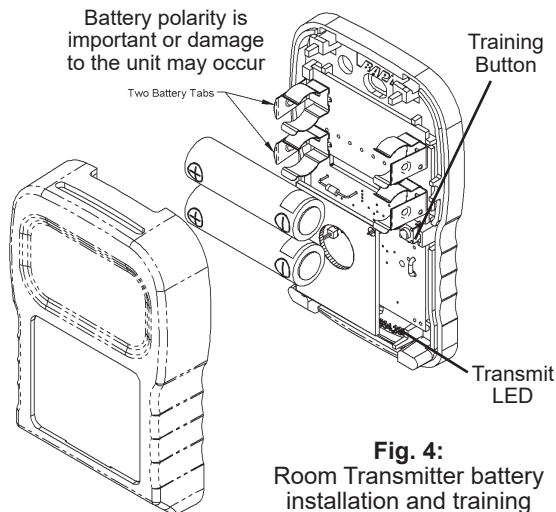
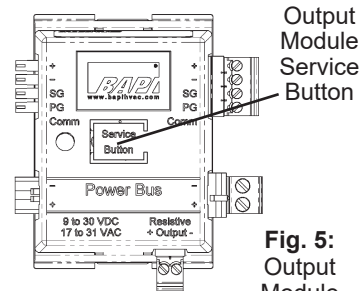

Fig. 4:
Fig. 5:
3. Remove the cover of the room transmitter and remove the battery tabs or install the batteries, observing polarity as shown in Fig 4. The "transmit LED" will flash about once every 20 seconds, indicating a transmission.
4. Press and hold down the "Service Button" on the top of the output module (Fig 5) that you wish to train. Then, press and release the "training button" (see Fig 4) on the transmitter. When the output module receives the "training transmission" from the transmitter, the output module's red LED will light steady. Release the "Service Button" on the output module and the red LED will go out. The transmitter and output module are now trained to each other. During normal operation, the output module's LED will flash about once every 20 seconds indicating data reception from the transmitter trained to it.